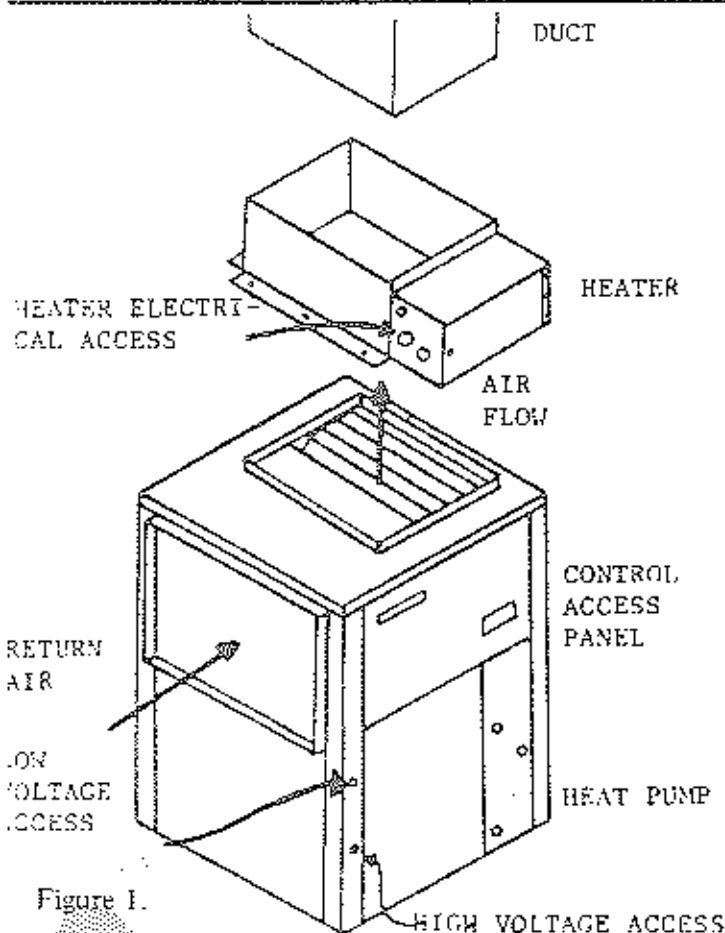

Figure 1.
1. Place heater over unit air discharge. The heater control box should be on same side as Control Access panel of heat pump (See Figures 1 and 2).